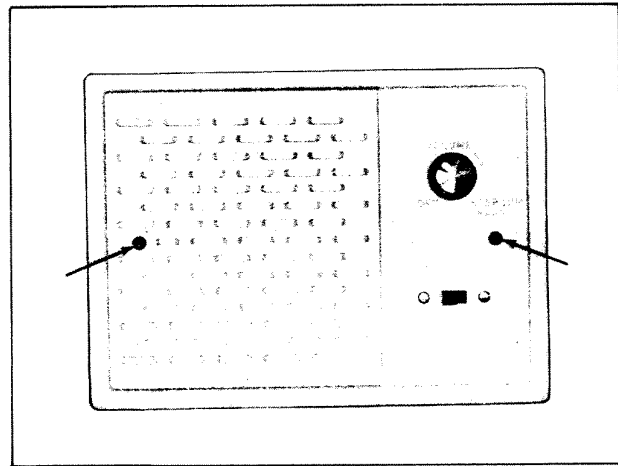

Fig. 6. Model 2025 and 2026 inside remote speaker station.
1. Model 2025—4-inch standard speaker (Fig. 6)
2. Model 2026—5-inch full-range speaker (Fig. 6)
2. Align mounting holes of speaker unit with holes in rough-in frame. Fasten in place with screws provided as shown by arrows in Figs. 6 and 7.